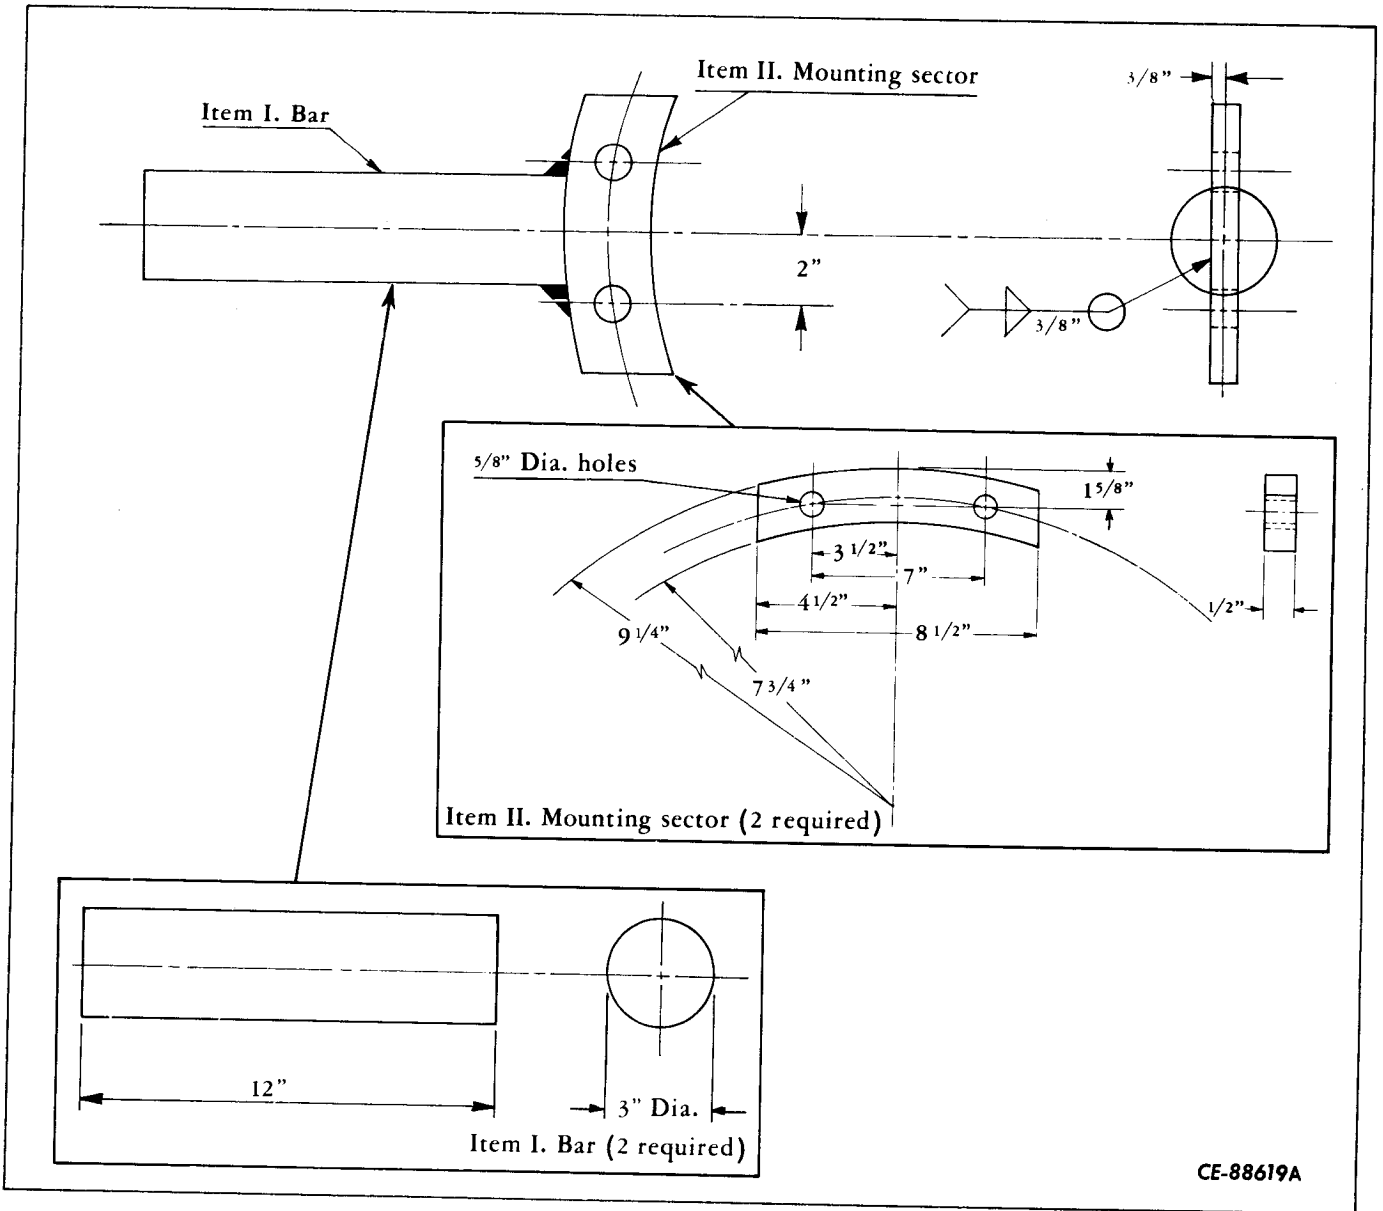

Figure 6-83
A. Swivel weldment (Fig. 6-83).